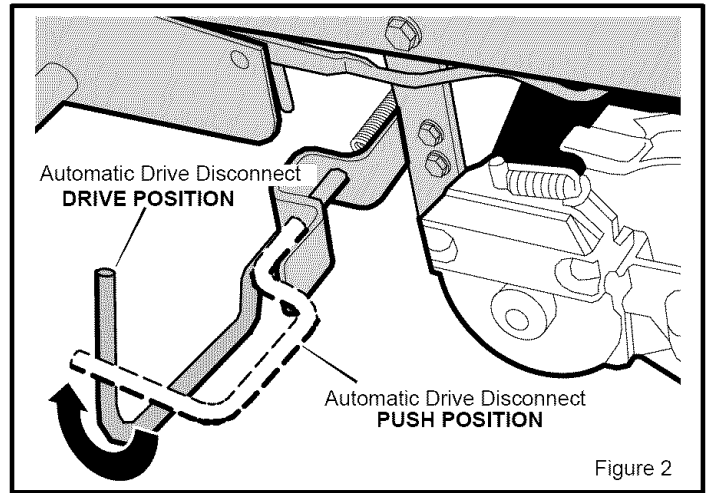

Figure 2
To allow the unit to be pushed, the unit was shipped with the **automatic drive disconnect** in the **PUSH POSITION**. Before operating, the **automatic drive disconnect** must be set in the **DRIVE POSITION**. (Figure 2)
4. To push the unit, move and latch the **automatic drive disconnect** in the **PUSH POSITION** (Figure 2). The transmission is now *released* and the unit can be pushed.